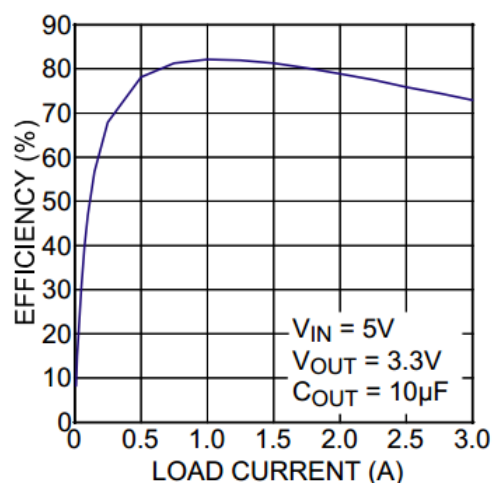

Figure 25. MIC38300HYHL Efficiency vs. Load
- DC-to-DC converter efficiency (see Figure 25)